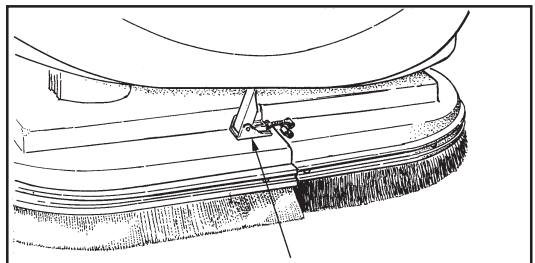

Figure 16
5. Unlatch right and left brush housings and remove them. See figure 16.